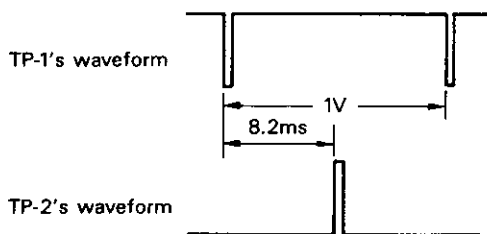

Fig. 80
- ② Connect the oscilloscope probe to TP1 and TP2. (Use a two-channel oscilloscope.)
- ③ Adjust VR401 so that the phases of the measuring waveforms become as shown in Fig. 80 (V-DELAY):